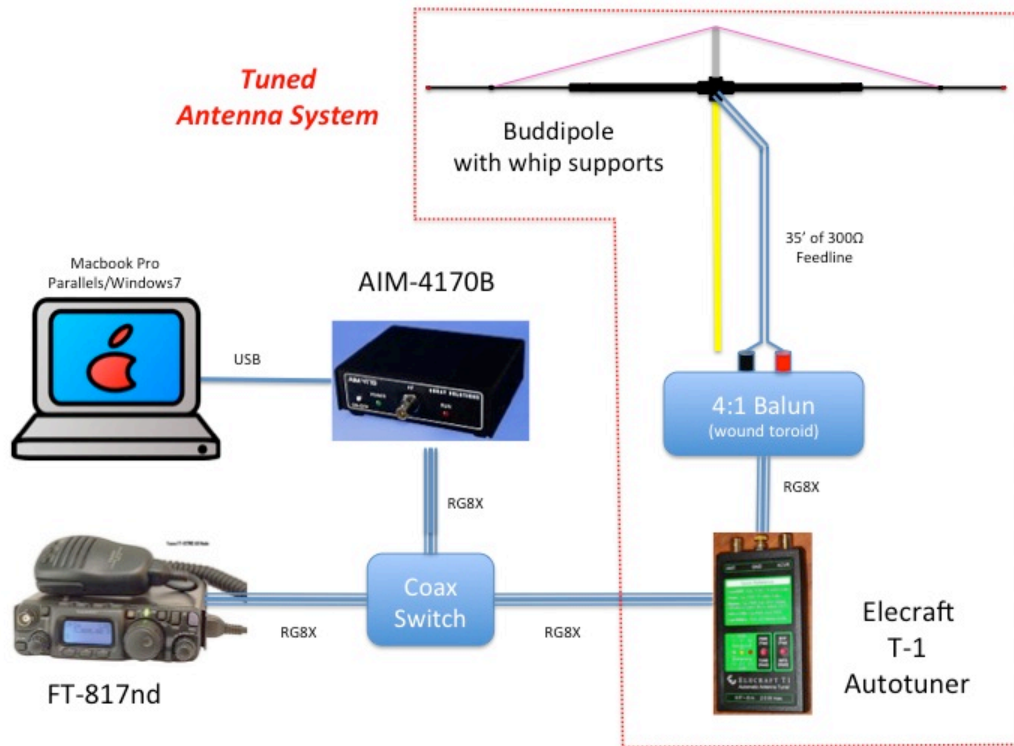

Figure 1: Experimental Setup
For a given configuration, the operator typically adjusts the Buddipole’s tuning for each band or band segment by changing the length of the whips and/or by moving taps on the loading coils. Each tap is constructed as a small flat sharp hook attached to a mini-banana jack with external threads. This hook clips under one turn of a loading coil. A color-coded plastic knob screws onto the jack’s external threads securing the hook to the coil, and a mini-banana plug attaches a coil shorting wire to the jack. To change the location of a tap, one must unplug the shorting wire, carefully unscrew the retaining knob part way to release the hook, twist the hook to remove it from the coil, move the hook to a different coil location, twist and wiggle the hook to re-attach it to the coil, tighten the retaining knob to secure the hook, and re-insert the shorting wire plug into the jack. It’s somewhat tricky to do this without dropping the hook or the knob, or marring the coil itself. Moreover, if the antenna is mounted on a mast (as in Figure 1), it must be lowered to adjust either the taps or the whip lengths. Though laborious, ideally this process can be done “off-line”: The operator can develop a table of whip lengths and tap positions for each desired operating frequency (cf. [Anderson, 2010]), and some taps can be left “permanently” attached to useful coil positions. If this is done, tuning reduces to removing and re-inserting the shorting wire plugs and possibly changing the whip lengths. This still requires lowering the antenna, and quick band/frequency changes are limited to pre-tapped positions. Finally, in portable operations unforeseeable environmental objects and conditions may affect the antenna resonance and SWR, unexpectedly rendering pre-set taps less effective for tuning to their intended frequencies.
My approach was to make the Buddipole as electrically long as practicable, feed it with balanced line from a balun and tuner, and measure how it loaded (i.e., SWR) across several bands. Here's specifically what I did (See Figure 1 below for a diagram of this experimental setup):
2. **Whip support:** I support the whips about 1/3 of the way from the ends. To do this, I use a ~24" piece of PVC vertically out the top of the Versatee, with an adjustable "vee" of twine to rubber grommets slipped over the whip ends. This adds stability and reduces "whip droop" and related stresses (Figure 1 diagrams this support).
First, I positioned the coax switch to connect the FT-817nd to the T-1. Then I set up the FT-817nd on the respective band's test frequency. Next, I activated the T-1 to tune the antenna to the lowest SWR it could find. I then switched the coax from the FT-817nd to the AIM-4170 and ran an SWR plot on the *tuned antenna system* (which of course now includes the tuned T-1, balun, feedline, and Buddipole – see the dotted red line in Figure 1). I repeated this process for one or more frequencies in each of seven HF amateur bands: 80M, 40M, 30M, 20M, 17M, 15M, and 10M. I did not test any frequencies in the 60 Meter or 12 Meter bands.
For a diagram of “normal” station operation with this setup, just a) delete the laptop, AIM-4170B, and coax switch from Figure 1; b) connect the transceiver’s antenna connector straight to the autotuner; and c) pick a frequency, tune, and operate.
SWR Plots of the Tuned Antenna System in Figure 1 (40-10 Meter HF Bands)